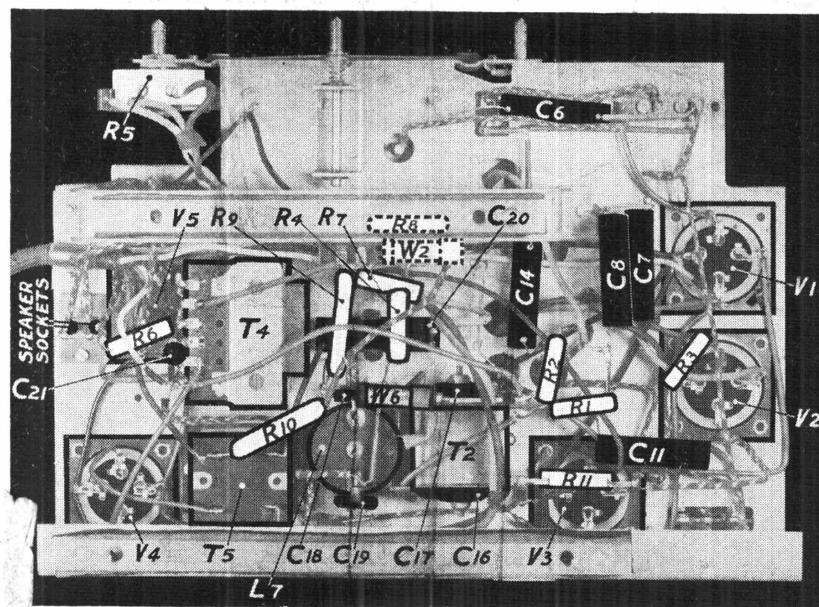

Fig. 3. Under-chassis view.
**Resistance  $R_6$ .** In the early models the 5,000  $\Omega$  resistance, marked  $R_6$  on the circuit diagram, was mounted at the back of the volume control. Owing to the operation of this control, the tags were liable to be strained and fractured. With the more recent receivers it is mounted on the output transformer in the position shown in Fig. 3. When dealers have this trouble it is suggested that they re-mount in the new way.